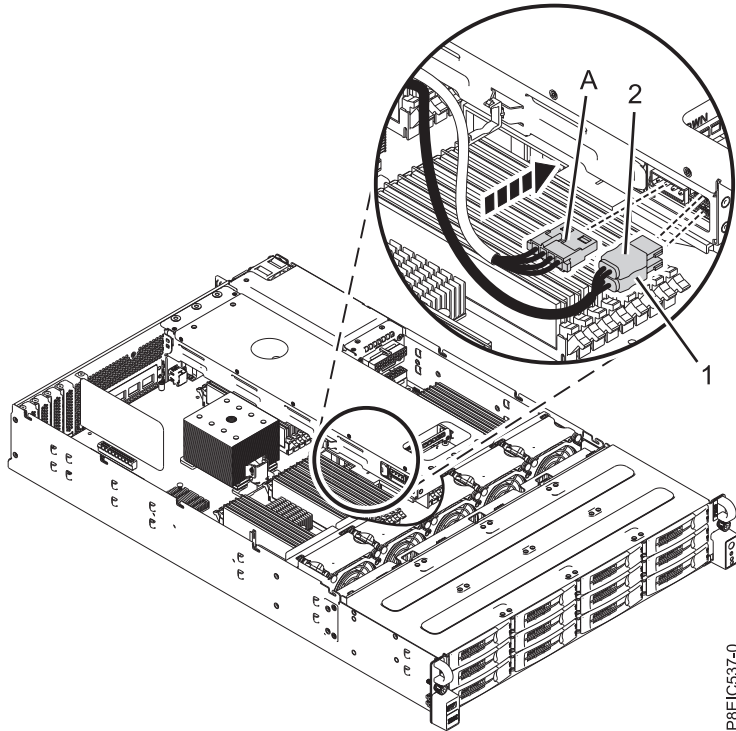

Figure 21. Connecting the drive signal and power cables
3. Connect the drive signal cable (connectors **(1)** and **(2)**) to the rear drive tray assembly. Cable **(1)** plugs into the bottom socket and cable **(2)** plugs into the top socket, as shown in Figure 21 on page 20. Connect the power cord **(A)**.